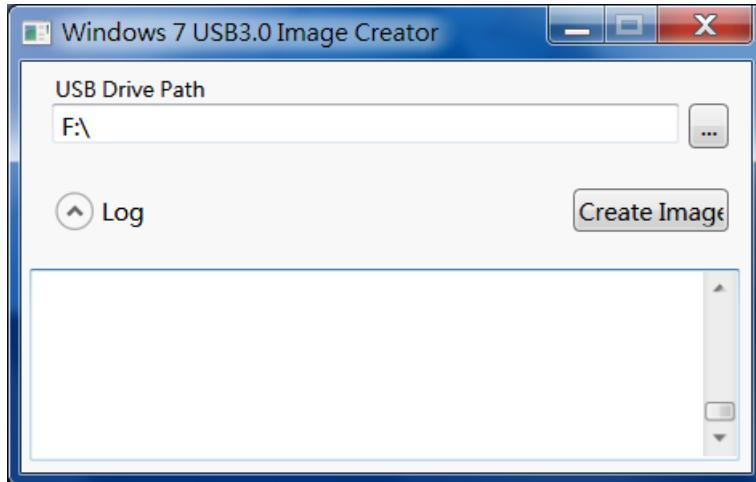

Figure 4-20: Windows 7 USB 3.0 Creator Utility
Step 6: The Windows 7 USB 3.0 Creator Utility screen appears (**Figure 4-20**). Click to browse to the root of the USB drive containing the Windows 7 image.